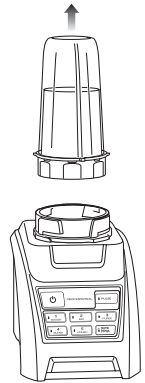

Fig. 5
- 6 Once you have reached your desired consistency, turn the power button off. Turn the Nutri Ninja® cup counterclockwise and pull straight up to remove. **(Fig. 4) (Fig. 5)**